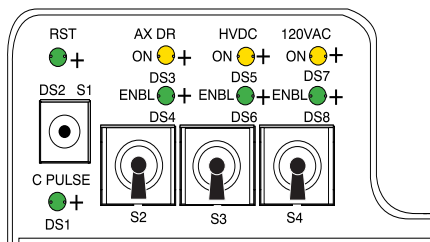

Figure 35 - STC Backplane Service Switches
- ENSURE THAT THE DRIVE STATUS LED (Figure 35) IS NOT LIT. DO NOT SERVICE THE GANTRY IF THIS LED IS ON.